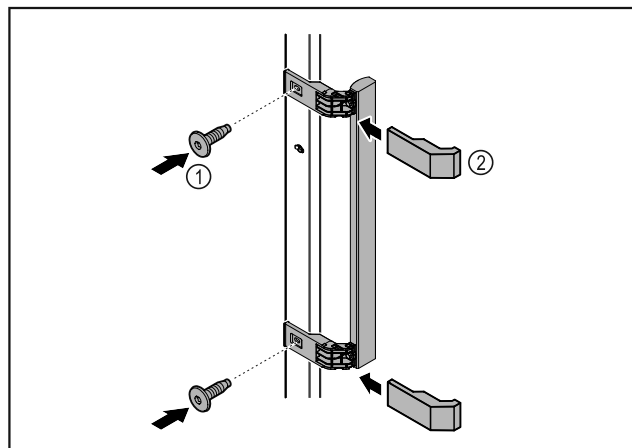

Fig. 49
- Attach handle from accessory kit to the door using the screws supplied Fig. 49 (1).
- Put on cover Fig. 49 (2).